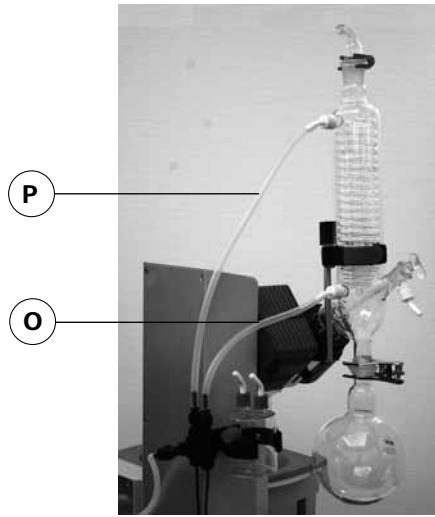

Fig. 17
Connect the water hoses to the glass condenser (short hose (O) = lower outlet, long hose (P) = upper inlet) and fix hoses in place (fig. 17).